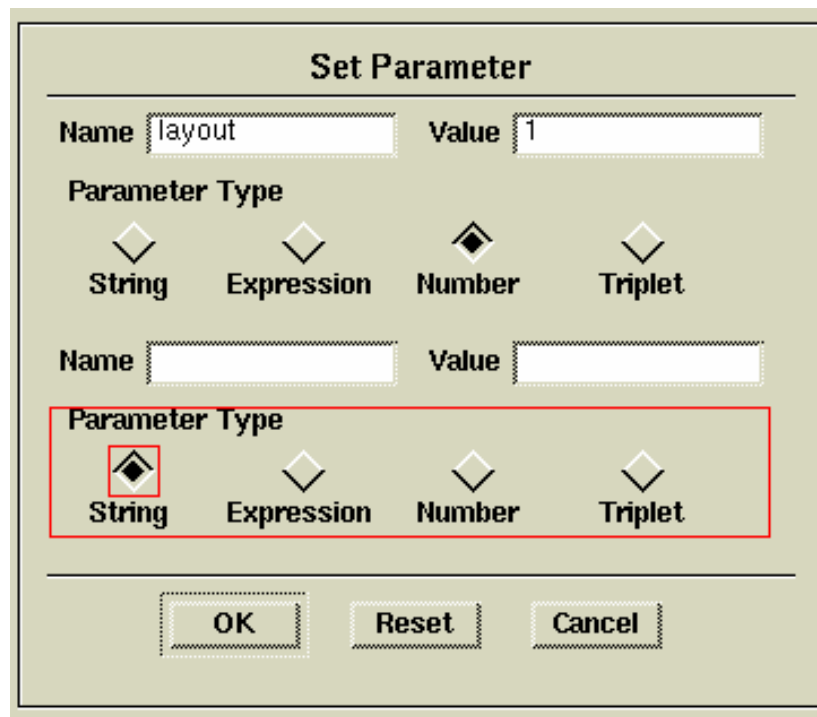

Figure 2-39. Set Parameter Dialog Box
2. Complete the Set Parameters dialog box, as shown in Figure 2-39.